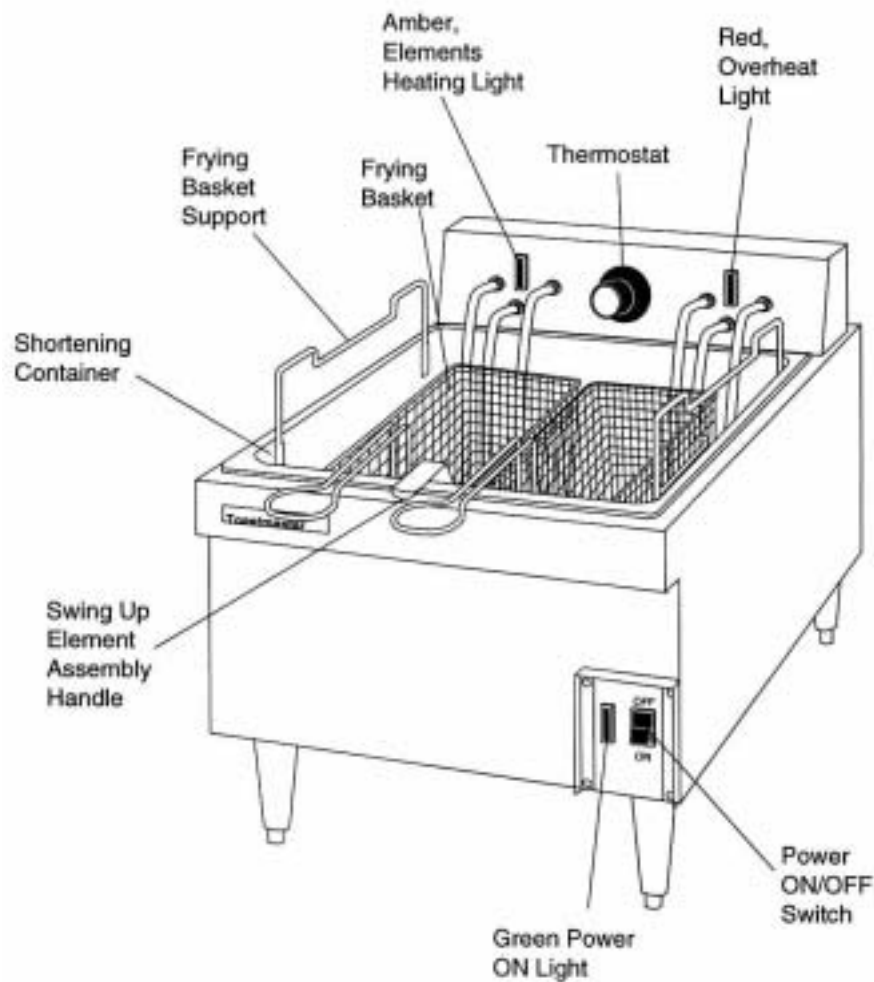

Figure 3-1
3. Check that shortening drain valve is closed as shown in Figure 3-1.
2. Turn the power switch ON. Refer to Figure 3-1.